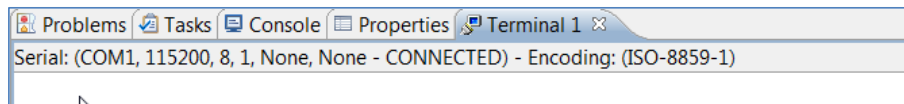

Figure 46: Terminal Connection Verification
12. Verify the **Terminal** connection by checking the status at the top of the tab (FIGURE 46).